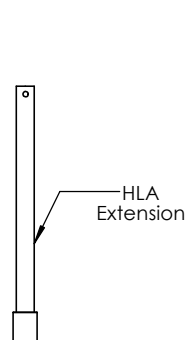

Fig. 6
- Extend HLA with HLA extension (Fig 6). Refer to installation guidelines for cable length